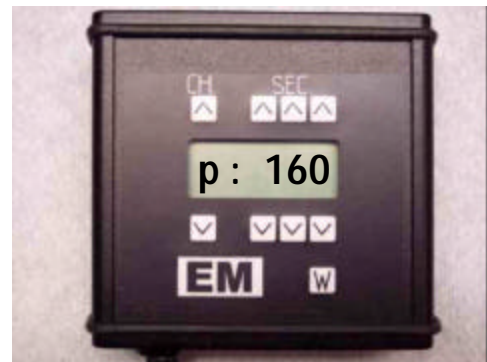

Fig. 13
1. Press "CH √" again, the display will read "P : 160". The "P :" indicates that this is the pressure value for any channels that are in "P2" mode. (Fig. 13)